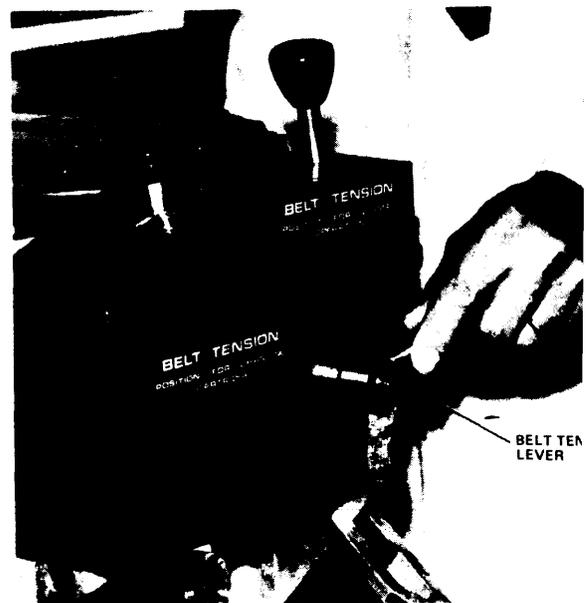

Figure C-38
5. Move tension level counterclockwise to release belt (Figure C-38).